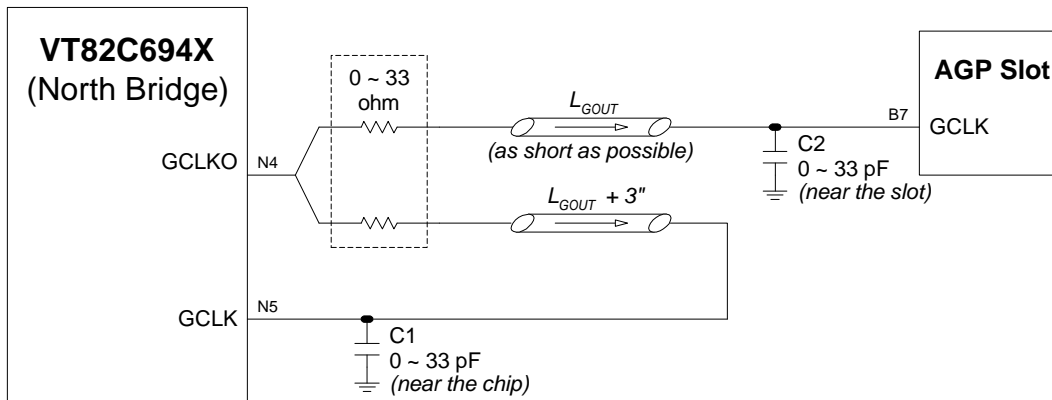

Figure 2-28. AGP Clock Layout Recommendations
Layout recommendations for the AGP clock are shown in Figure 2-28. Typically, 22 ohm series terminations are recommended for the AGP clock. A typical 22 pF bypass capacitor is also required for the AGP clock (GCLKO) to the AGP slot. Depending on how the system is designed, the value of the bypass capacitors for the PCI clocks may vary. For clock alignment considerations, 3 more inches than that of the AGP clock trace to the AGP slot are added to the feedback AGP clock trace length. (Note: the 3 inches represents the estimated distance from the GCLK pin of a AGP slot to the GCLK pin of the VGA chip on an AGP video card.) Some layout guidelines for the AGP clock are listed below:
- Both C1 and C2, which should be placed very close to the VT82C694X chip and the AGP slot respectively, are used to control the AGP clock alignment. (See Figure 2-28).